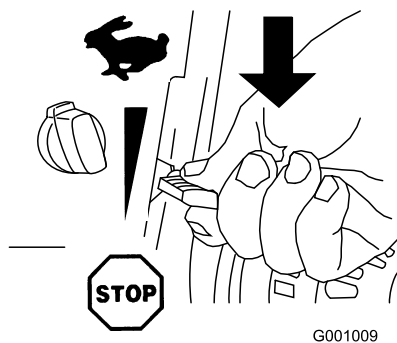

Figure 30
1. Move the throttle to the Stop position (Figure 30).